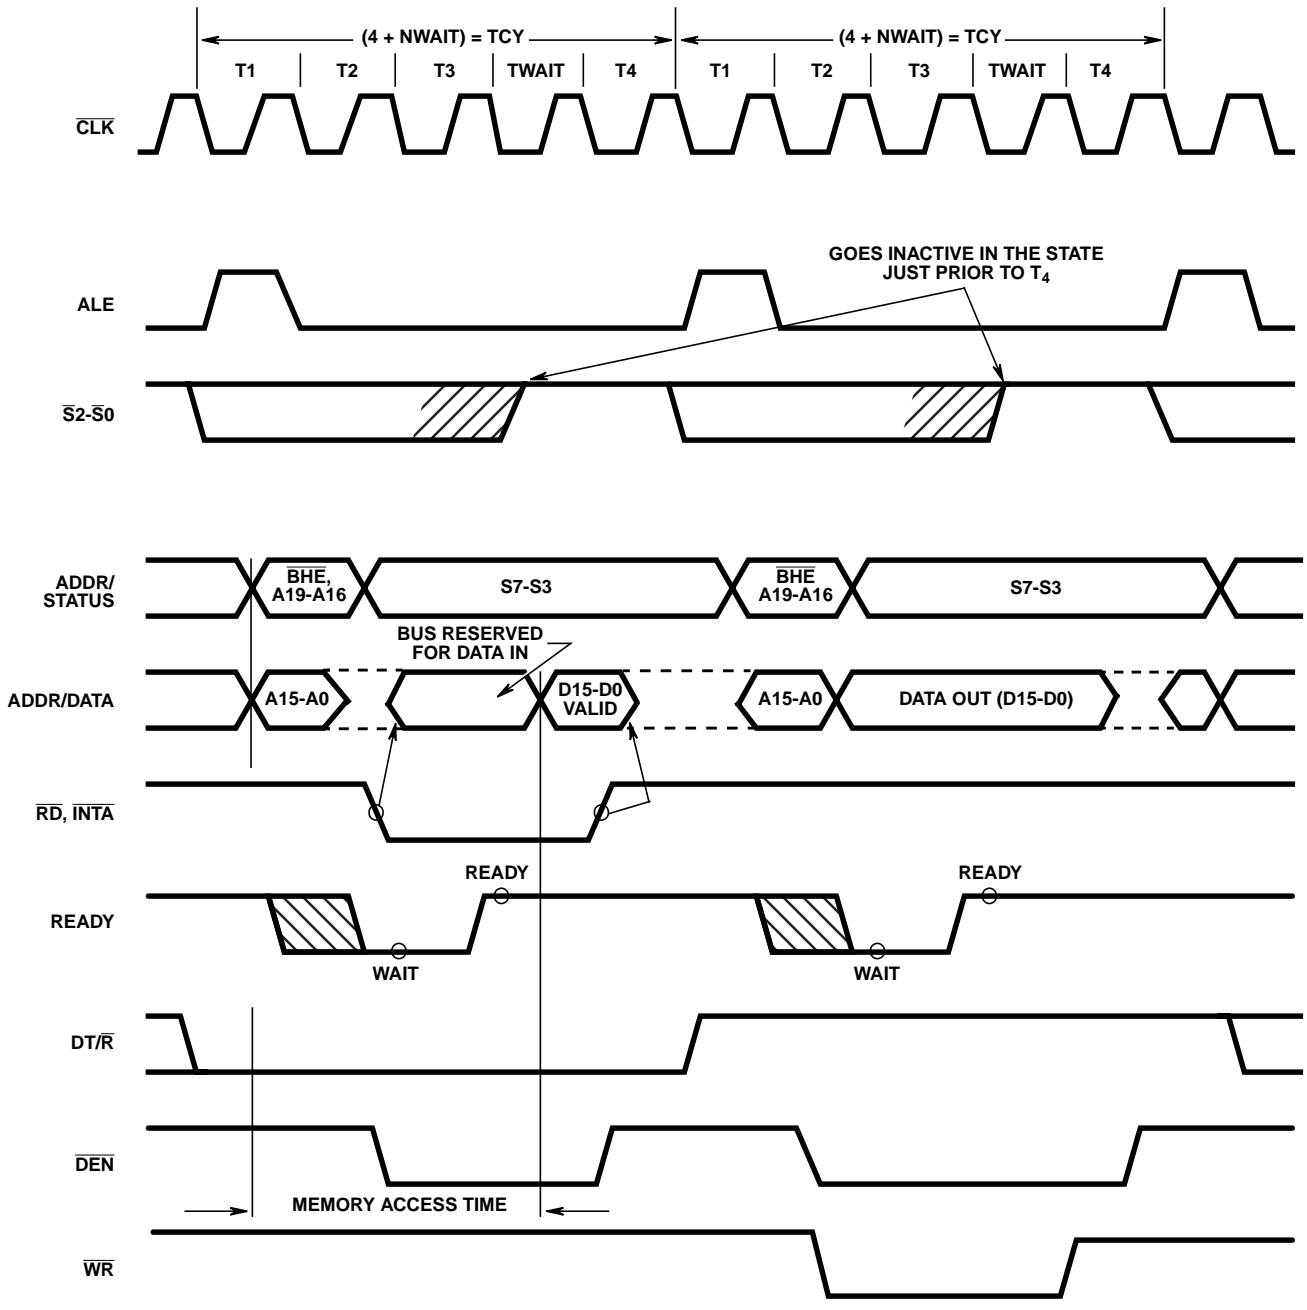
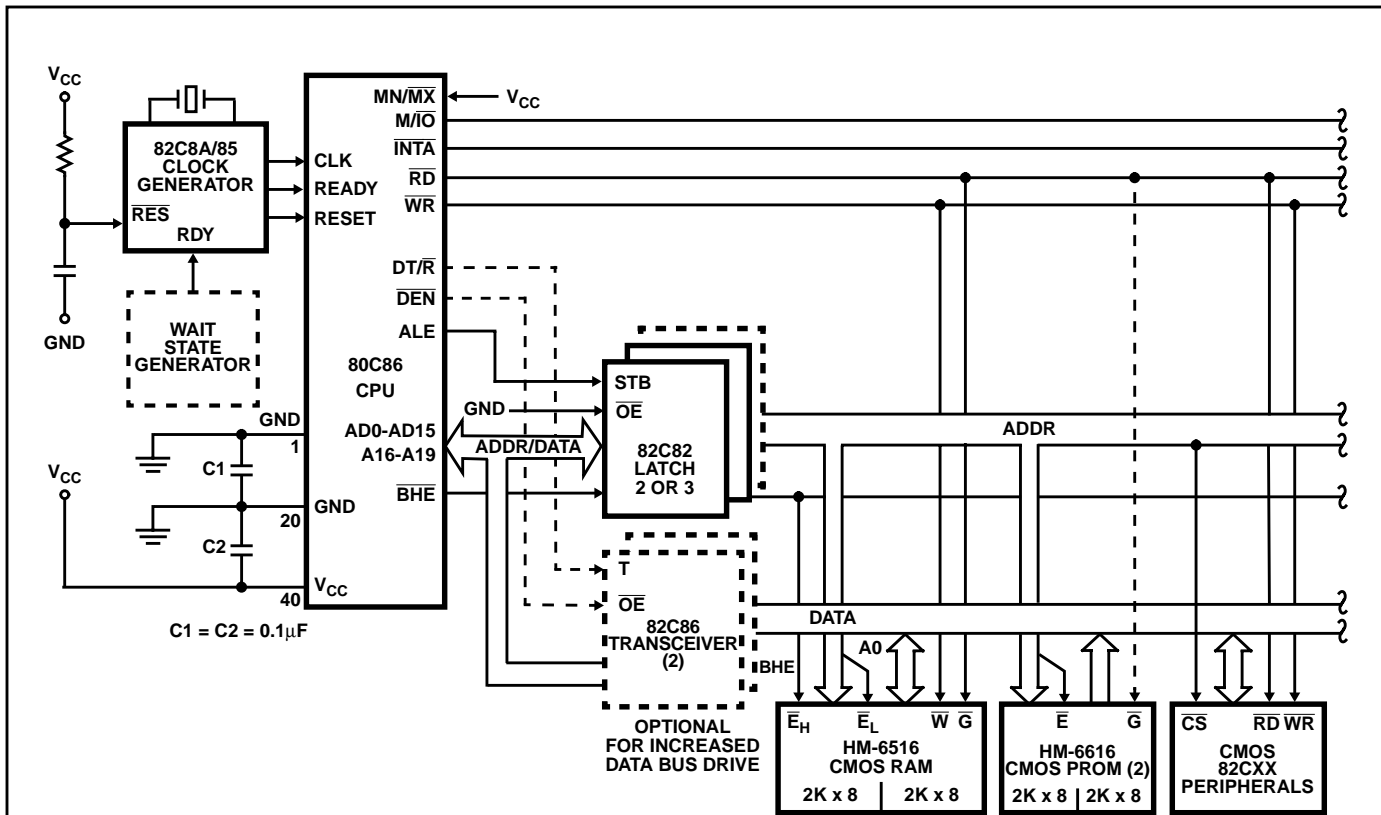

FIGURE 3. BASIC SYSTEM TIMING
FIGURE 6A. MINIMUM MODE 80C86 TYPICAL CONFIGURATION
The demultiplexed mode requires two 82C82 latches (for 64K addressability) or three 82C82 latches (for a full megabyte of addressing). An 82C86 or 82C87 transceiver can also be used if data bus buffering is required. (See Figure 6A.) The
Each processor bus cycle consists of at least four CLK cycles. These are referred to as T1, T2, T3 and T4 (see Figure 3). The address is emitted from the processor during T1 and data transfer occurs on the bus during T3 and T4. T2 is used primarily for changing the direction of the bus during read operations. In the event that a "NOT READY" indication is given by the addressed device, "Wait" states (TW) are inserted between T3 and T4. Each inserted wait state is the same duration as a CLK cycle. Periods can occur between 80C86 driven bus cycles. These are referred to as idle" states (T_i) or inactive CLK cycles. The processor uses these cycles for internal housekeeping and processing.
Typical system configurations for the processor operating in minimum mode and in maximum mode are shown in Figures 6A and 6B, respectively. In minimum mode, the MN/MX pin is strapped to VCC and the processor emits bus control signals (e.g. RD, WR, etc.) directly. In maximum mode, the MN/MX pin is strapped to GND and the processor emits coded status information which the 82C88 bus controller uses to generate MULTIBUS compatible bus control signals. Figure 3 shows the signal timing relationships.